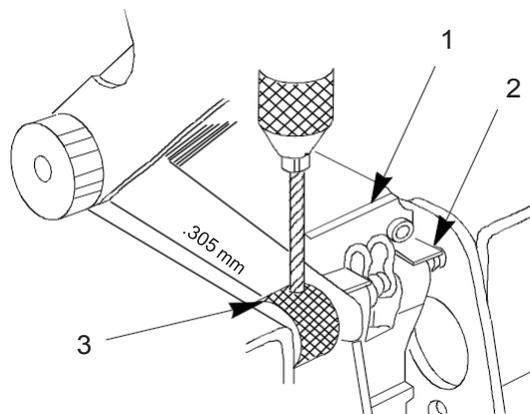

Figure 37. Windage Knob, Machine Screw, Sight Base.
7. Position windage knob (Figure 37, Item 3) onto machine screw (Figure 37, Item 2) and insert .012 in./0.305mm blade of feeler gage between windage knob (Figure 37, Item 3) and rear sight base (Figure 37, Item 1). With blade installed and hole of knob in vertical position, clamp in protective jawed vise.
8. Using the hole in windage knob (Figure 37, Item 3) as a guide, drill a hole through the new machine screw (Figure 37, Item 2) using a No. 53 (.0595) drill bit. Remove feeler gage.